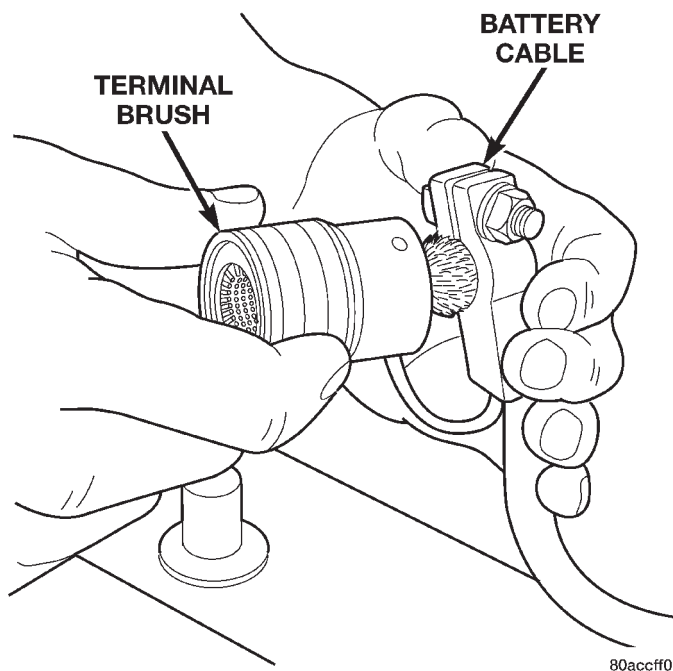

Fig. 17 Clean Battery Cable Terminal Clamp - Typical
(3) Inspect the cable terminal clamps for corrosion and damage. Remove any corrosion using a wire brush or a post and terminal cleaning tool, and a sodium bicarbonate (baking soda) and warm water cleaning solution (Fig. 17). Replace any cable that has damaged or deformed terminal clamps.